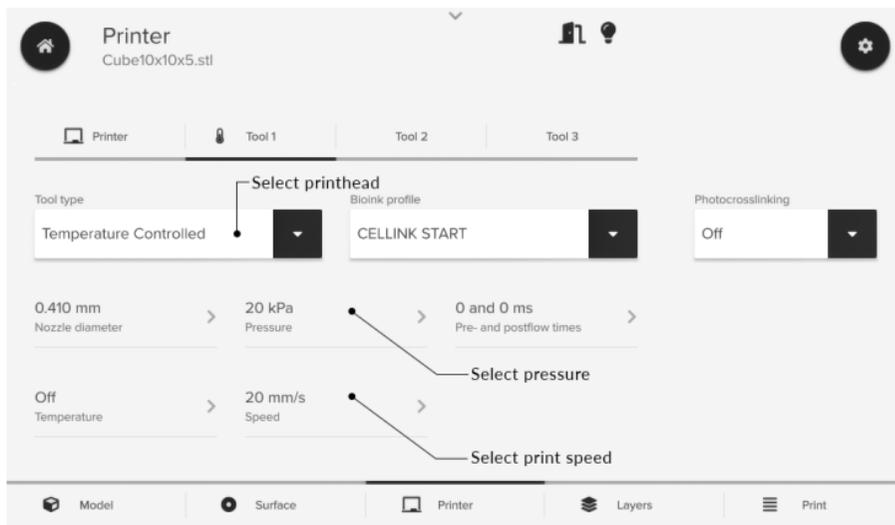

Figure 14: Printing parameters to set on the Printer menu.
- Select the tool position where the printhead has been attached. Ensure that Temperature-controlled is selected under the tool type (**Figure 14**).
- Enter the desired printing parameters for the printhead (**Figure 14**). Proceed to the Layers menu when finished. Parameters necessary for the pneumatic printhead include: